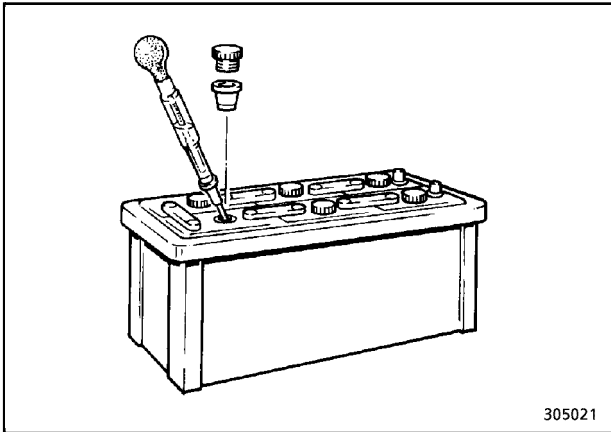

Fig. 4
- Unscrew caps of the battery (Fig. 4).
- Measure the acid density of the battery using a commercial acid tester (Fig. 4).